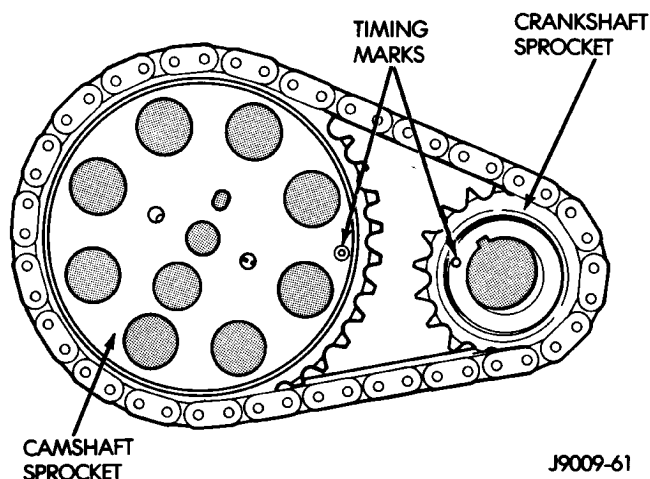

Fig. 42 Crankshaft—Camshaft Alignment—Typical
(6) Rotate crankshaft until the "0" timing mark is closest to and on the center line with camshaft sprocket timing mark (Fig. 42).